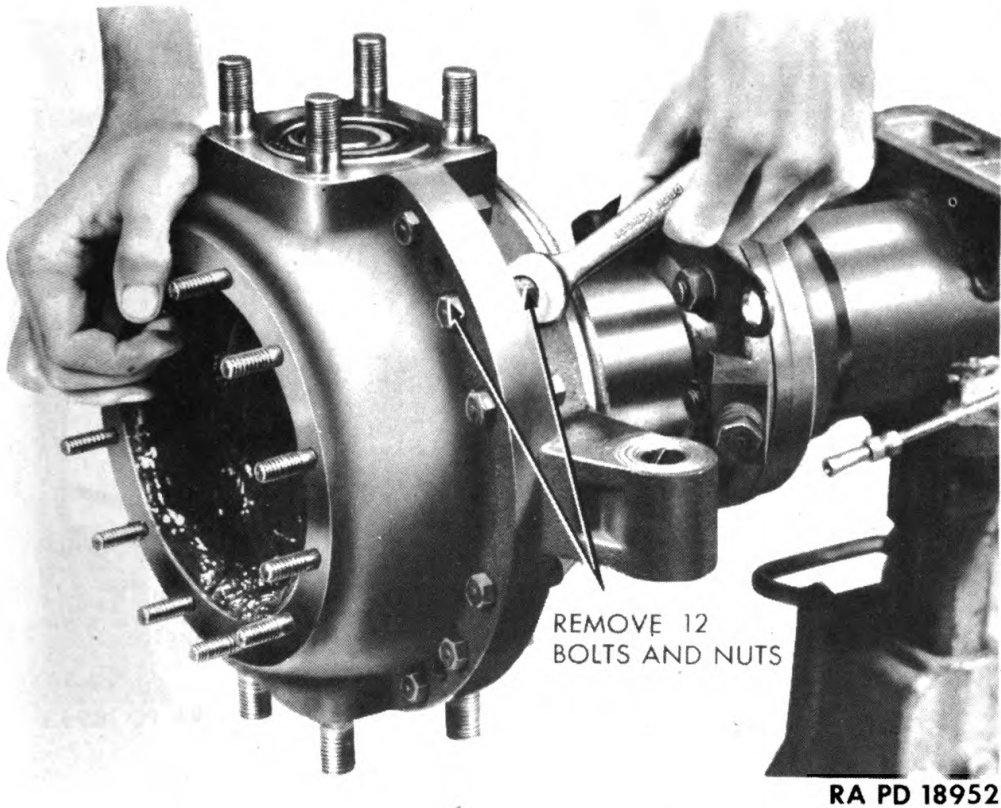

Figure 35 — Removing Trunnion Yoke Housing Bolts
k. Disassemble Trunnion Yoke Housing. Remove nuts and lock washers from 12 bolts connecting inner and outer halves of trunnion yoke housing (fig. 35). Separate inner and outer halves of housing (fig. 36).